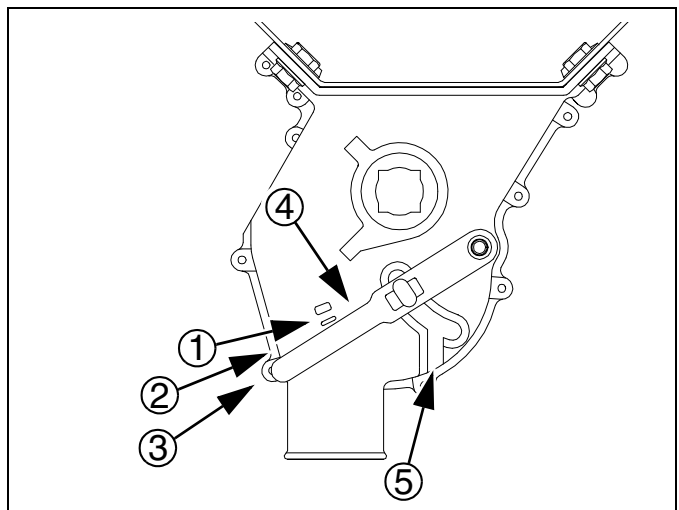

Figure 4
Refer to Figure 4, which depicts the seed cup door handle in position ③.